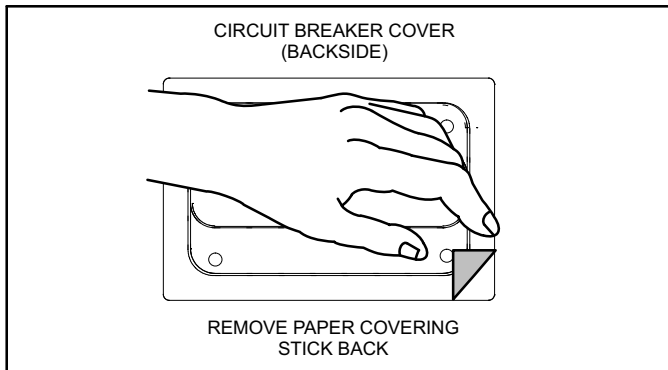

Figure 13. Remove Paper Cover
2. Remove paper covering adhesive back around backside perimeter of circuit breaker cover (figure 13).